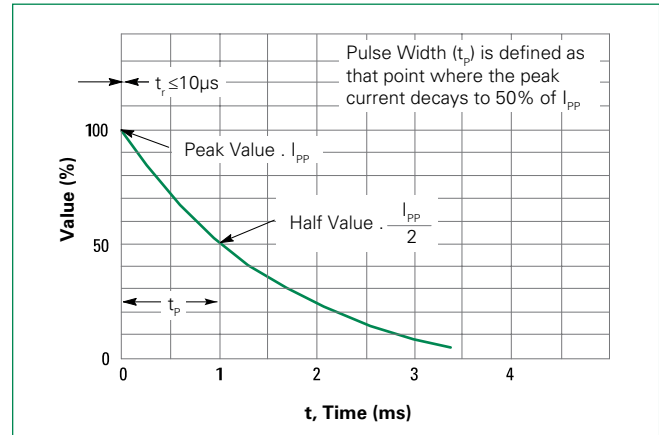

Figure 3.
8. Surge current waveform per Figure 1 and derate per Figure 3 of the General Data – 600 Watt at the beginning of this group.